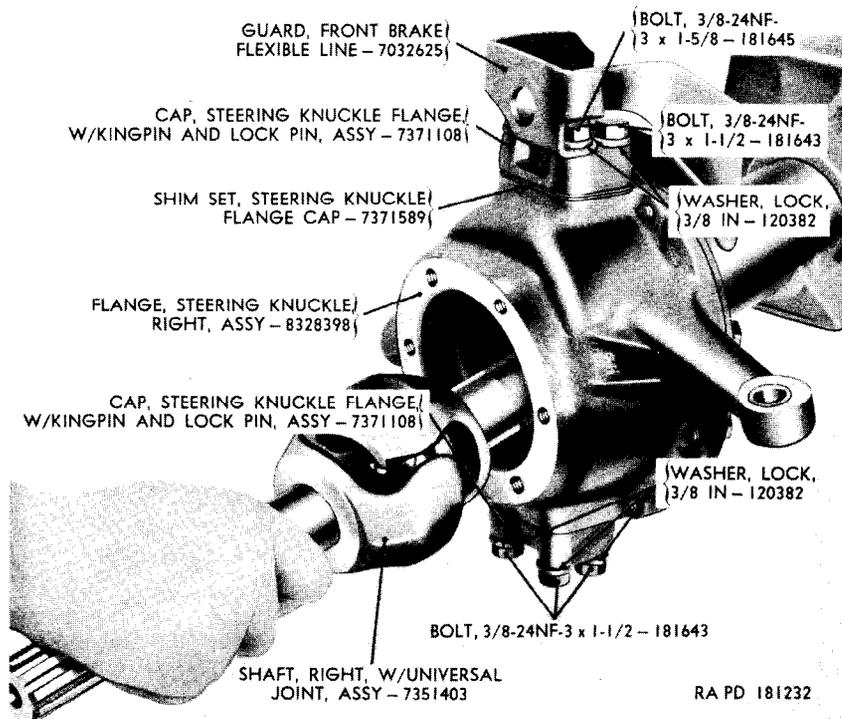

Figure 96. Removing front axle shaft with universal joint.
d. *Remove Axle Shaft Assembly*. Pull axle shaft with universal joint assembly directly out of steering knuckle flanges (fig. 96).
a. *Remove Front Brake Flexible Line Guard*. Remove the two bolts and lockwashers securing the front brake flexible line guard (fig. 96) and lift guard from the top steering knuckle flange cap assembly.